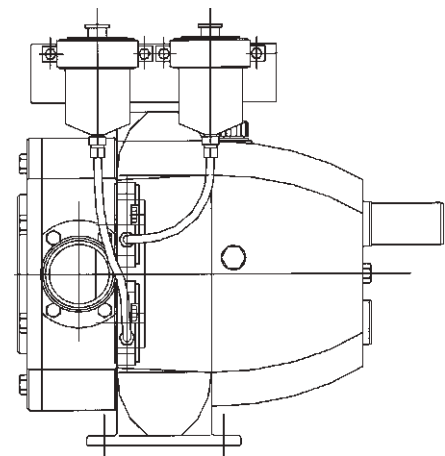

Fig 2
- A pressurised grease system using a commercially available grease canister. This offers the ability to seal against abrasive products such as high sugar products. It must be recognised that a small amount of grease will leak into the product being pumped. It will be necessary therefore to select compatible grease. (See fig 2, below).